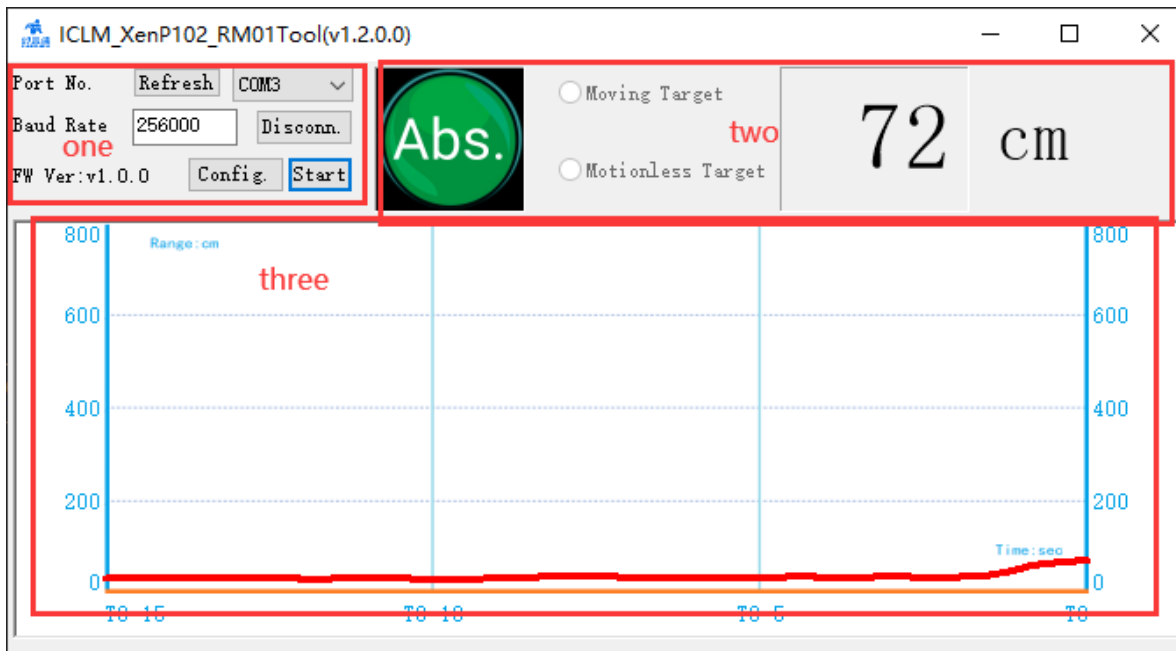
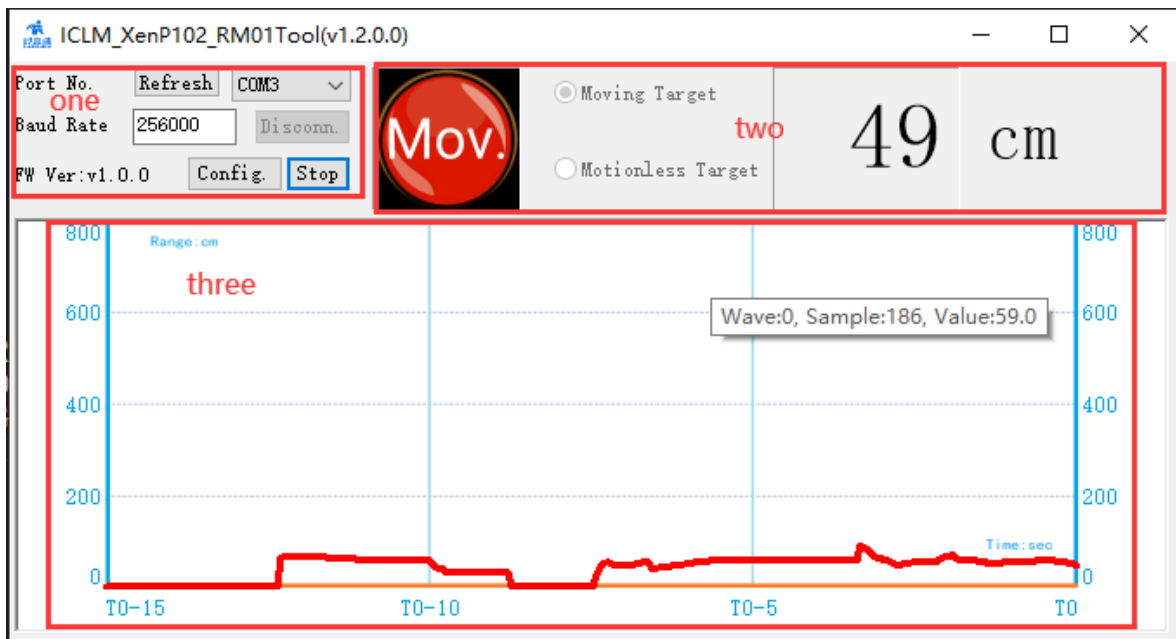
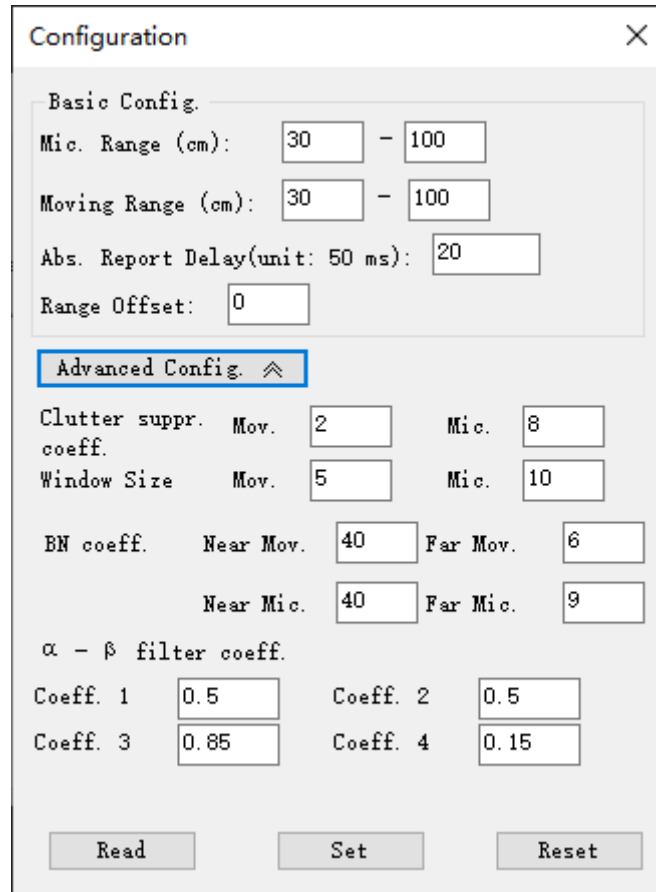

Figure 4-4 Upper computer tools ICLM_XenP102_RM01Tool configuration interface
Figure 4-5 Interface of the connection between the upper computer and the radar module
Figure 4-6 Parameter configuration interface
Step 1: Open the upper computer software. The software interface is shown in Figure 4-4. Click the "Refresh" button in the upper left corner of the interface (area 1 marked in Figure 4-4), select the corresponding serial port number of the radar module and enter baud rate: 256000, then click "Connect Device"; as shown in Figure 4-5, the text on the button will change to "Disconnect Device" after successful connection, the firmware version number of the radar module will be displayed in Firmware Version;
Step 2: Click the "Parameter Configuration" button, and the parameter configuration interface will pop up, as shown in Figure 4-6. Users can edit the corresponding parameter values according to their needs, and click the "Set Parameters" button to send the updated parameters to the radar module and return to the upper computer main interface. Please refer to Chapter 5 Communication Protocol for the meaning and configuration method of the parameters in the interface;
Step 3: Click the "Start" button of the main interface to receive real-time data from the radar end (at this time, the text on the "Start" button is switched to "Stop", as shown in Figure 4-5), and the upper computer interface displays the distance and status of the detected target (marked area 2 in Figure 4-5), the distance curve 3 between the target human body and the radar module in the latest 15s is displayed below (area 3 marked in Figure 4-5);
As shown in Figure 4-4 and Figure 4-5, the circular indicator light on the far left of area 2 displays the target status detected by the radar module through color changes. The indicator light is green to indicate that there is no target in the detection area, red to indicate that there is a moving human target, and pink to indicate that there is a micro-moving human target, as shown in Figure 4-6.